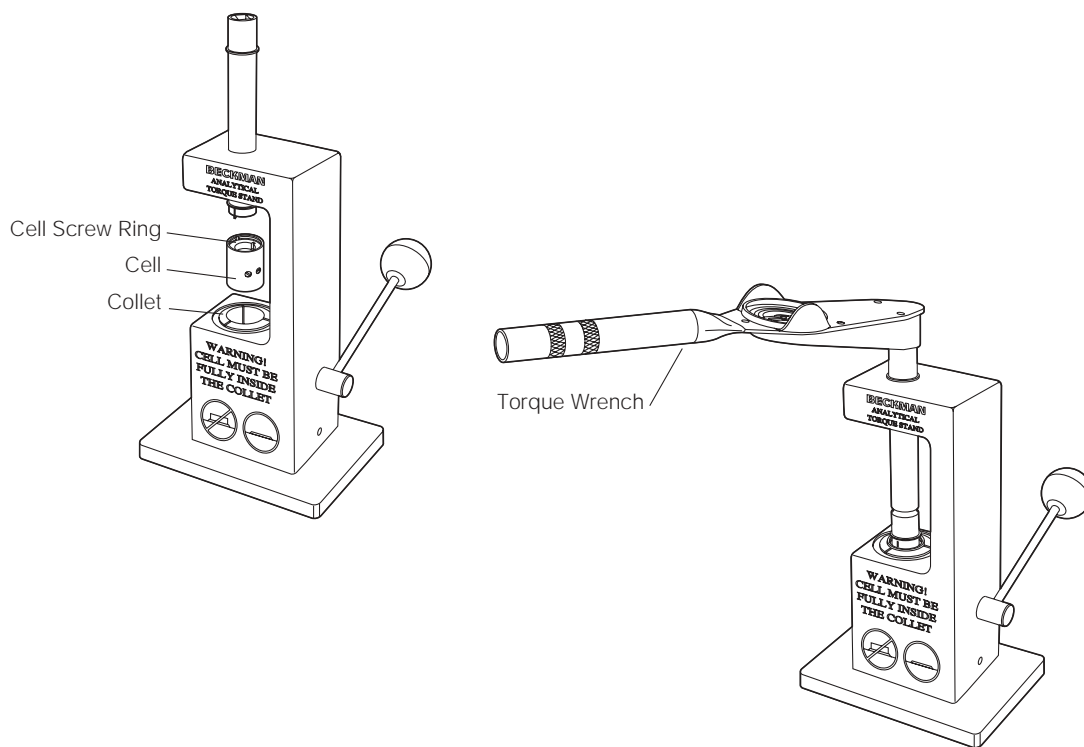

Figure 5. Insert Cell Into the Torque Stand Collet and Check Screw Ring Tightness
7. **Important:** before re-use, place the centerpiece assembly in the cell torque stand and use the cell torque wrench to ensure that the screw ring is tightened to 120 inch-pounds (see Figure 5). Refer to litpak 363548, *How to Use the Analytical Torque Stand and Torque Wrench*, for complete instructions on torquing the cell.